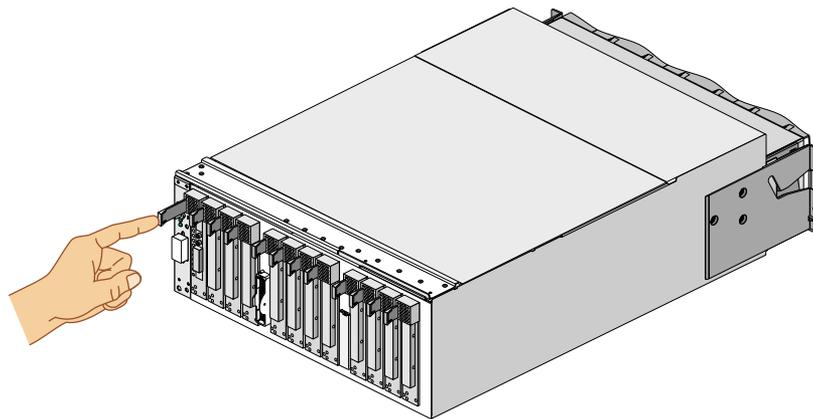

Figure 2-6 Seating the PCI Card in the PCI Slot
6. Push in the PCI card actuator tab until the card seats in its slot (refer to Figure 2-6).